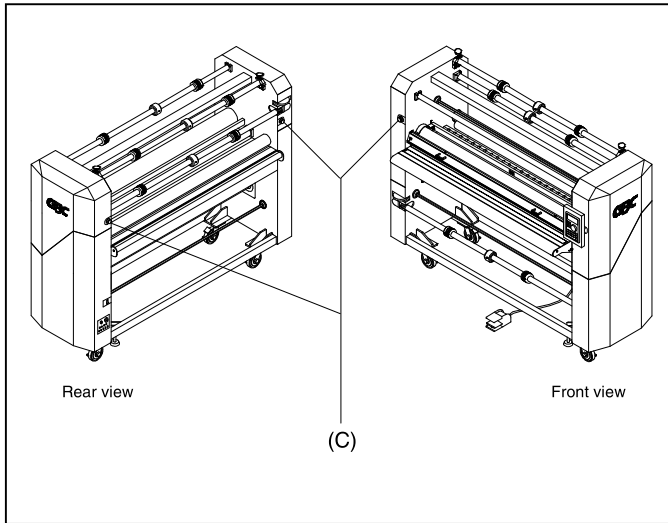

Fig. 11
C. E-STOP: Three emergency stop buttons exist on the laminator. One located at the right front and two at the rear. (Figure 11)